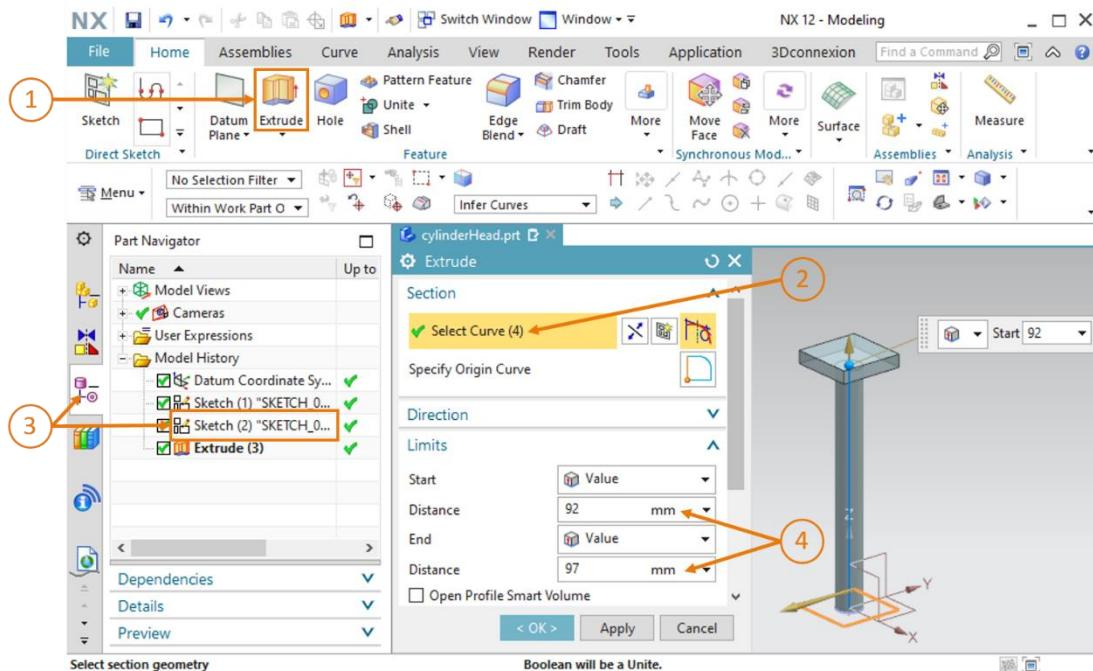

Figure 41: Modeling of the arm
- For modeling the arm, you also need the "Extrude" function (see Figure 41, step 1). However, in this case you need to select your second sketch named "**Sketch (2)**" "**"SKETCH\_001"**" as illustrated in steps 2 and 3 in Figure 41. Because the arm is to be attached at the top end of the guide cylinder, specify a distance of **92 mm** for the start value. For a thickness of 5 mm, you need to define a distance of **97 mm** for the end value. This is shown in step 4 in Figure 41.